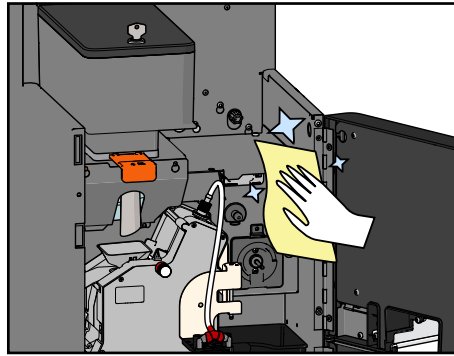

Figure 55.
11. Clean the interior of the machine with a slightly damp cloth (see Figure 55).